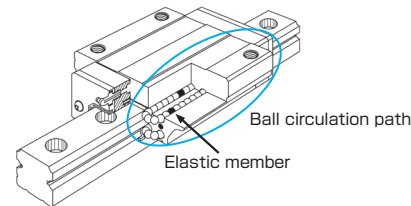

Fig. 12 Mechanism (structure)
- As shown in Fig.12, linear guides contain numerous steel balls inside the circulation path. Curved sections existing in the path cause the balls to become crowded as they travel, impacting operating characteristics. Elastic members added between the balls help to relieve this conflict and realize smoother motion.